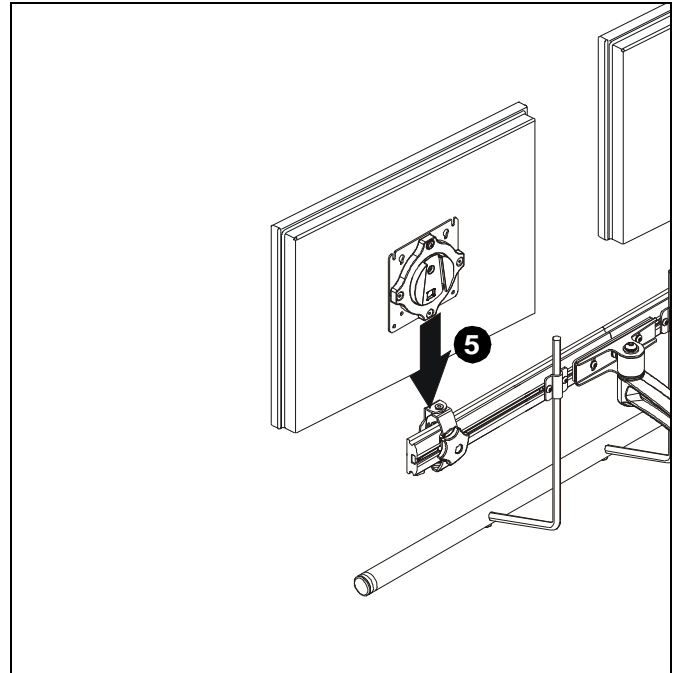

Figure 8
4. Position display with faceplate attached above mount. (See Figure 8)
5. Slide faceplate onto mounting head until quick release tab clicks into place. (See Figure 8)